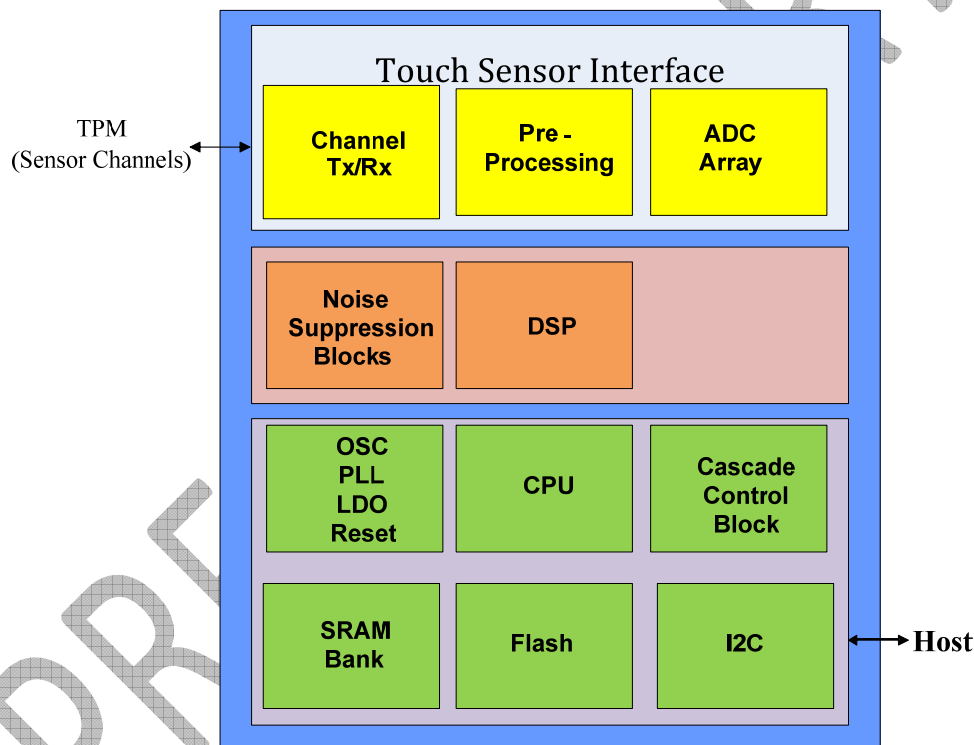

Figure3-1 NCB3051 block diagram
NCB3051 is composed of four main blocks that includes (1) Touch Sensor Interface Blocks, (2) Noise Suppression Blocks, (3) Micro-controller and (4) Host Interface. Figure3-1 is the architecture of NCB3051. And the function of these blocks will be described as following.